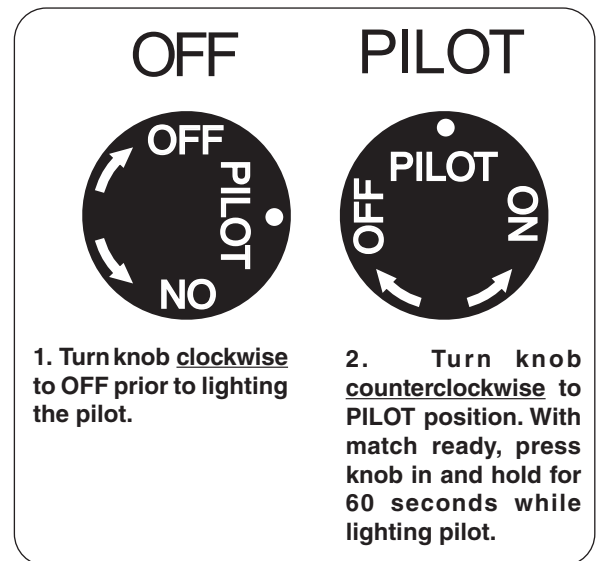

Fig. 33-1 Control knob detail (OFF, PILOT)
1. Locate the valve on the side of the unit. Push in the gas control knob slightly and turn clockwise to **OFF** (Fig. 33-1).
2. Turn the control knob counterclockwise to **PILOT** (Fig. 33-1). Push the control knob **firmly and fully** in and hold. Hold a long fireplace match or lighter near the thermocouple to light the pilot. Continue to hold the control knob in for approximately 60 seconds after the pilot is lit, then release the knob. The pilot will remain lit.